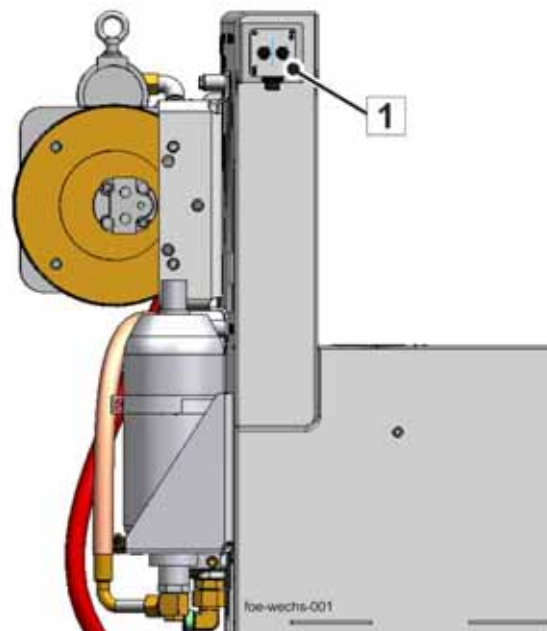

Fig. 80
Control of the concrete pump and the drive motor is transferred to the terminal box for the "Pumping piston change" operating mode (1) (**Fig. 80**), see "**Pumping and differential cylinders, pumping piston change**" on page 487.